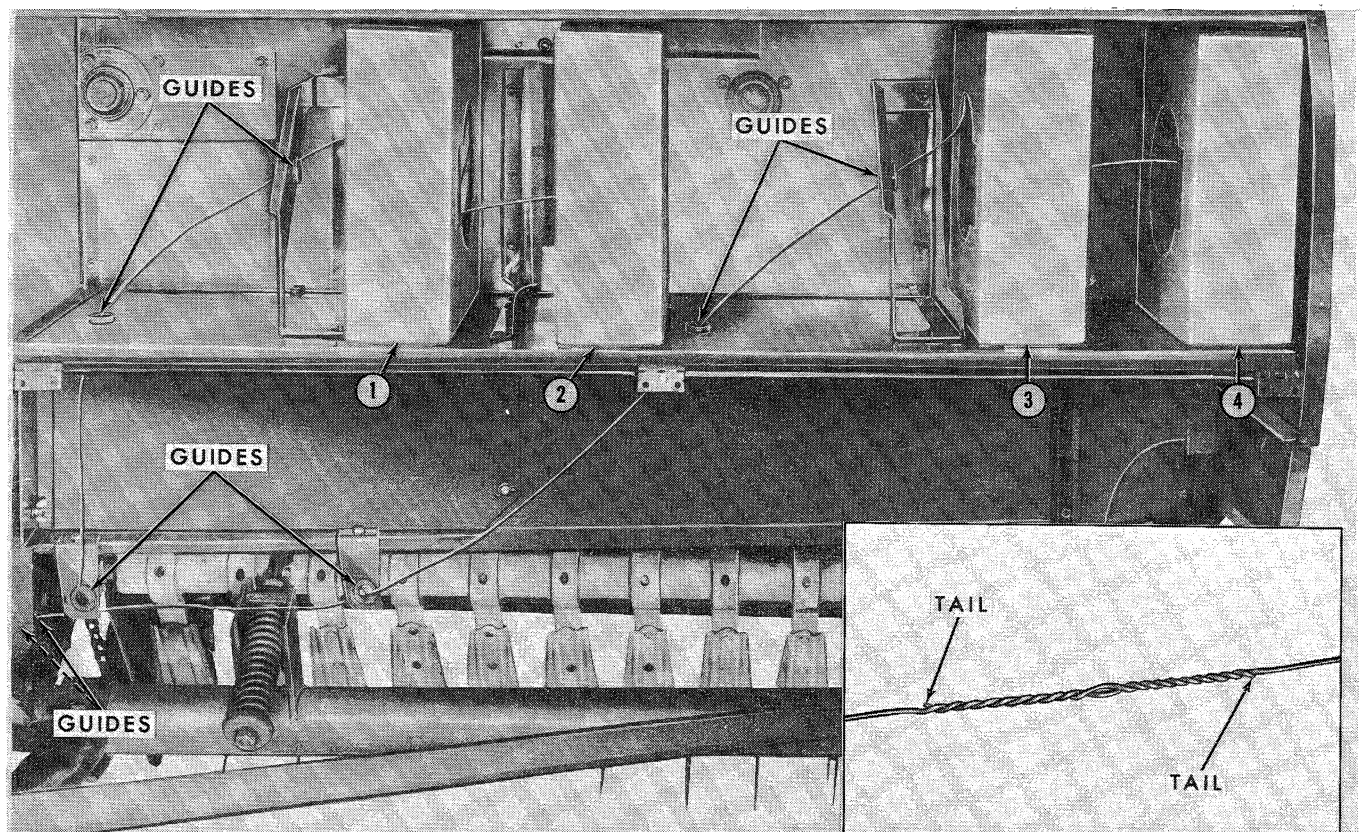

Figure 79
1. Slide four wire containers, Figure 79, into the wire compartment as far as possible.
2. Splice the inside wire from container (4) to the outside wire from container (3). Then splice the inside wire from container (2) to the outside wire from container (1). Form a tight splice, as shown in the Insert, Figure 79, being sure to cut the tail on each end of the twist as close as possible, so that the splice will pass freely through the guides and rollers.
3. Thread the inside wires from containers (1) and (3) through the adjacent guides and down through the floor guides, Figure 79. Continue by threading the wire from container (1) through the left-hand guide on the feed platform access door and the rear guide on the axle bracket. Then thread the wire from container (3) through the right-hand